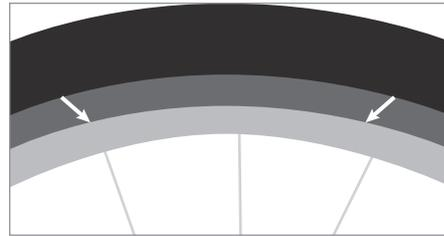

Figure 4
7. Put on safety glasses and inflate the tire. During inflation, ensure the tire beads don't move off the rim. The tire beads may make an audible snapping noise when they are fully seated. Check for proper tire bead seating by examining the rim and the indicator line or the top edge of the tire bead (Fig. 4). The tire is properly seated when the distance between the rim and the indicator line is equal all the way around the tire on both sides.